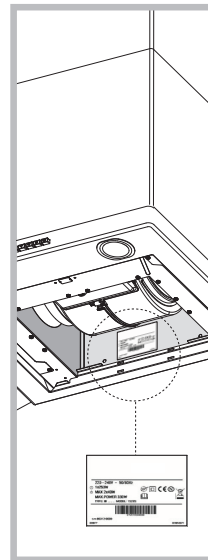

Fig.1C
- control the data plate (positioned inside the appliance) to ascertain that the voltage and power correspond to the network and the socket is suitable. If in doubt ask a qualified electrician **figure 1C**.